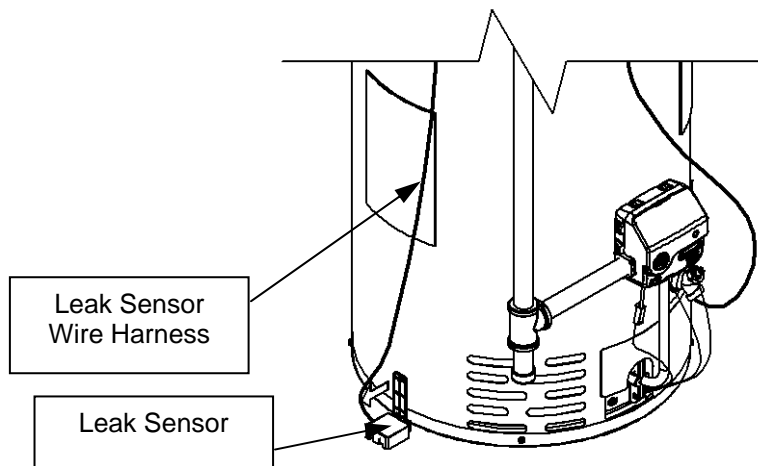

Figure 64
Step 13: Remove the Leak Sensor from the water heater jacket, and set it aside. This is shown in Figure 64.